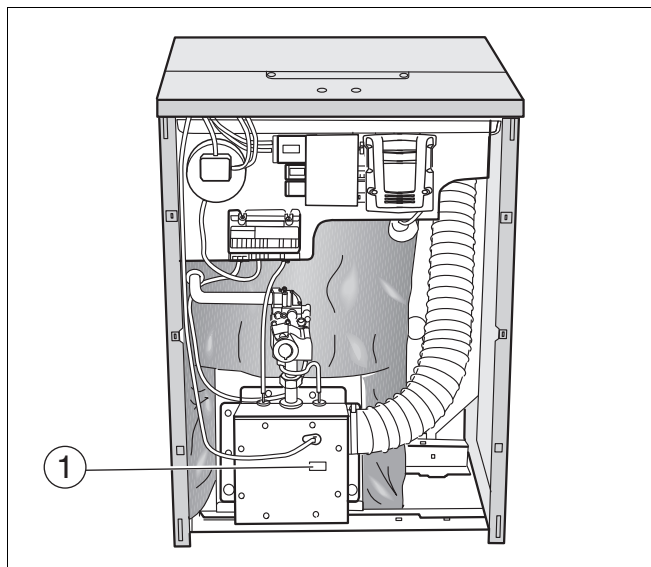
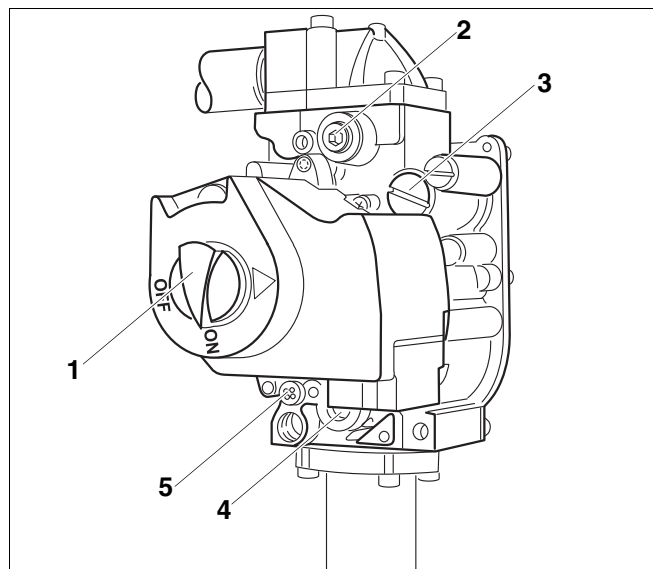

Fig. 29 Front view
Fig. 30 Gas valve
11. Check manifold pressure. The manifold pressure must be set in accordance with the values in → Tab. 13. To set the manifold pressure the cover (→ Fig. 30) on the gas valve must be removed. Turn the adjustment screw clockwise to increase the pressure and counterclockwise to reduce the pressure. This setting must be adjusted while the boiler is operating.
12. Record the set value in the commissioning protocol of the installation and maintenance instructions and screw the safety screw (→ Fig. 30, page 37) into the gas valve again.
13. Observe ignition flame through the sight glass (→ Fig. 29, page 36) in the burner housing.
The adjustment screw is behind the ignition gas pressure adjustment safety screw (→ Fig. 30, page 37).
16. Remove safety screw for pilot ignition pressure setting (→ Fig. 30, page 37). Turn the inner adjustment screw clockwise to reduce the ignition flame and counterclockwise to enlarge the ignition flame.
17. After adjustment tighten the ignition gas pressure adjustment safety screw (→ Fig. 30, page 37) again.
18. Observe main burner flame through the sight glass (→ Fig. 29, page 36) in the burner housing. The flame must have a steady and fixed contour and generally has a bluish color. If the main burner flame meets the requirements, proceed with step 21. If the main burner flame is too weak or is yellow or goes out, turn the ON/OFF switch (→ Fig. 30, page 37) on the gas valve clockwise to OFF. Close the gas valve and disconnect the heating system from the power supply and contact the customer service technician or the gas company.